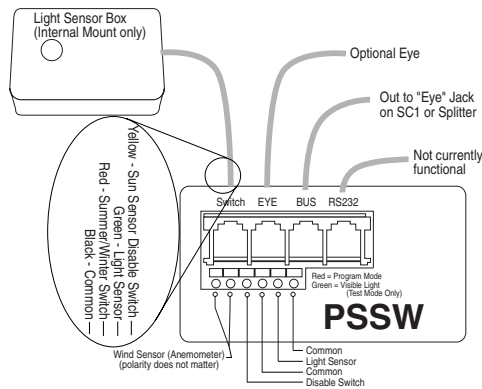

Figure 1
- ① Connect the sun and wind sensor Sun and Wind Sensor control board and wire to the Bus (see Fig. 1).
An optional "Winter/Summer select" switch may be connected into either mod jack (see Fig. 1). This switch connects between the black and red wires assuming black on the left. The sunrise and sunset thresholds and the associated actions can all change when this switch is activated. Switch OFF (no electrical connection): Summer; ON (electrical short): Winter.